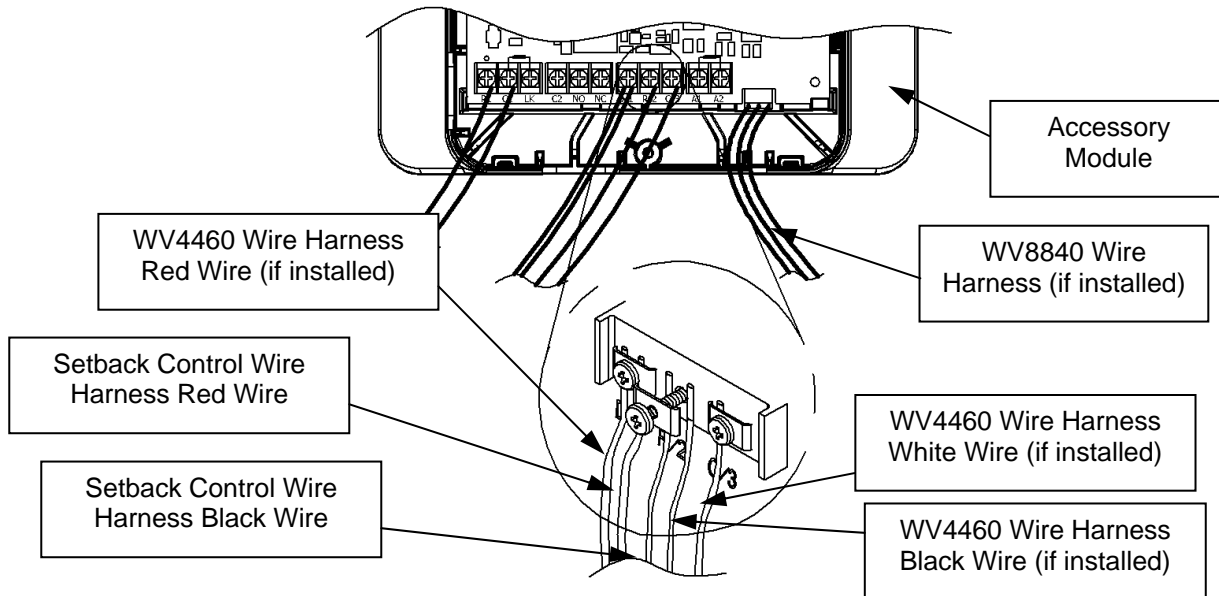

Figure 46
Step 19: Insert the black wire, from the Setback Control wire harness, under the screw labeled "R/2." If the water heater has a WV4460 gas control, the gas control wire harness black wire must be retained underneath this screw also. This is shown in Figure 46.